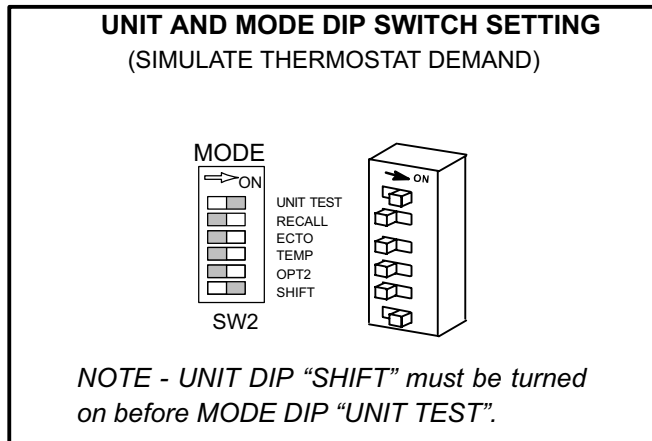

FIGURE 55
- 2-Move the MODE DIP "UNIT TEST" to "ON". See figure 55.